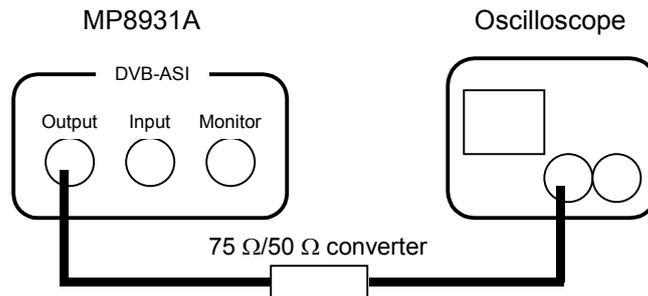

Fig. 6.4.2-1 Setup for DVB-ASI interface output level test
1. Set up the equipment as shown in Fig. 6.4.2-1.